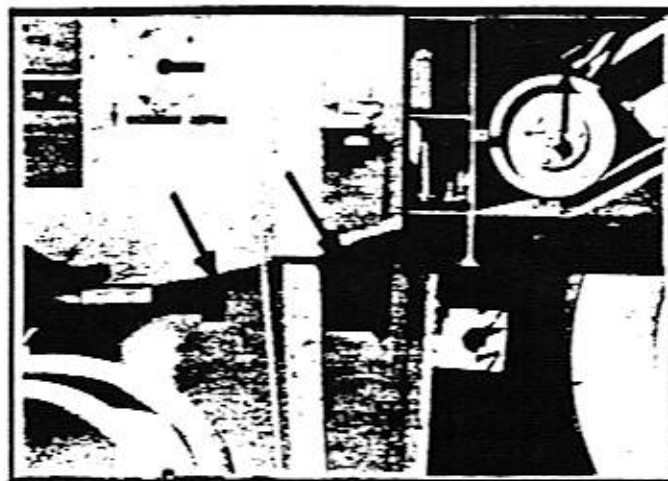

Figure 12-1
1. Position the machine on level ground, apply the parking brakes, chock the machine and remove the two (2) plugs from the planetary. Refer to Figure 12-1.